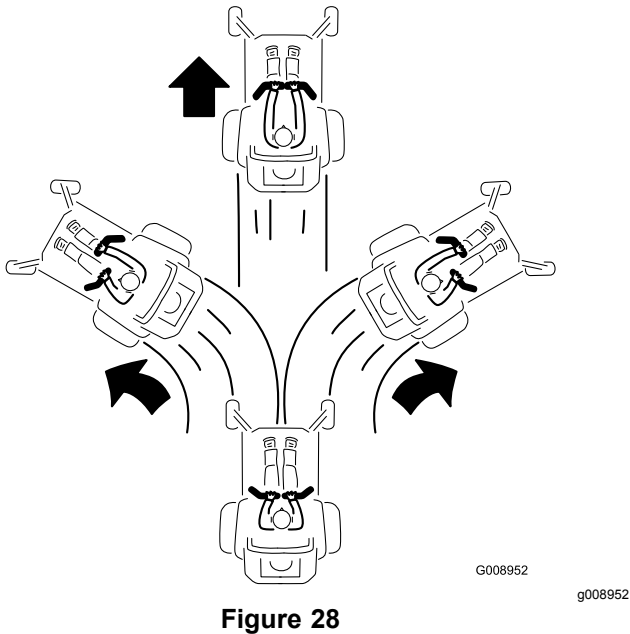

Figure 28
2. To go forward, slowly push the motion-control levers forward (Figure 28).